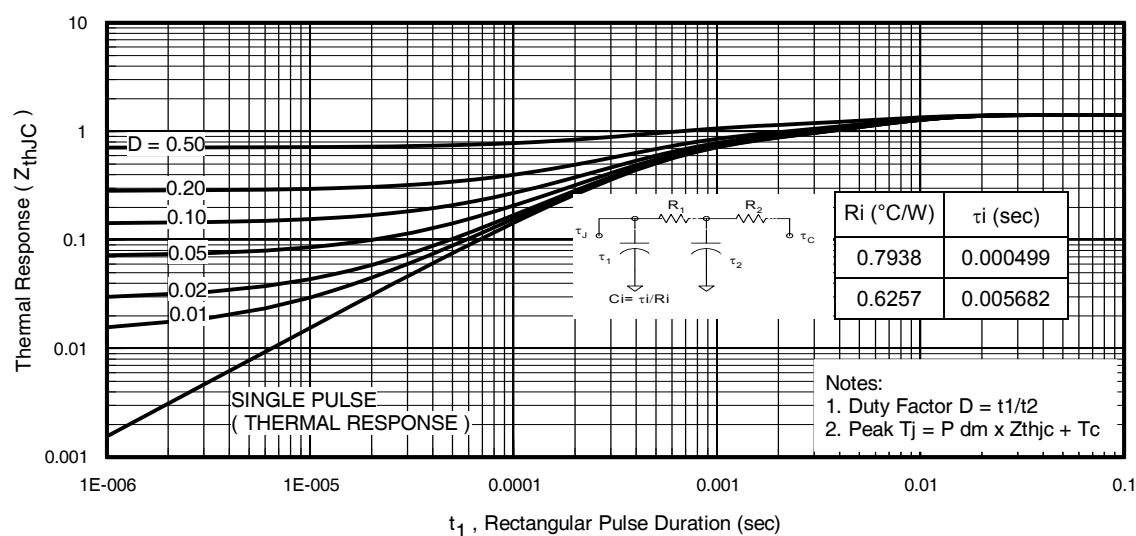
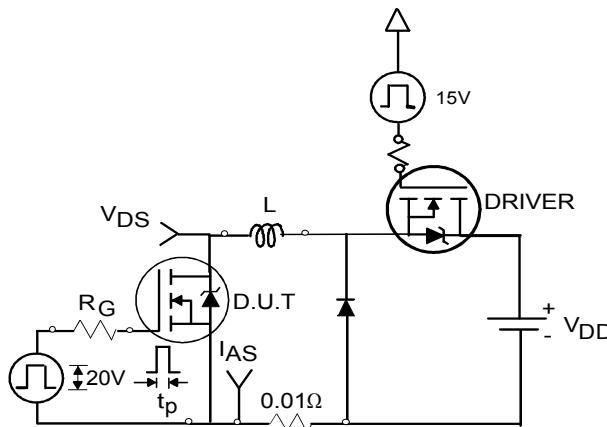

Fig 11. Maximum Effective Transient Thermal Impedance, Junction-to-Case
Fig 12a. Unclamped Inductive Test Circuit
- ① Repetitive rating; pulse width limited by max. junction temperature. (See fig. 11)
- ② Limited by $T_{J\max}$, starting $T_J = 25^\circ\text{C}$, $L = 0.197\text{mH}$, $R_G = 25\Omega$, $I_{AS} = 32\text{A}$, $V_{GS} = 10\text{V}$. Part not recommended for use above this value.
- ③ Pulse width $\leq 1.0\text{ms}$; duty cycle $\leq 2\%$.
- ④ $C_{oss\ eff.}$ is a fixed capacitance that gives the same charging time as C_{oss} while V_{DS} is rising from 0 to 80% V_{DSS}
- ⑤ Limited by $T_{J\max}$, see Fig.12a, 12b, 15, 16 for typical repetitive avalanche performance.
- ⑥ This value determined from sample failure population. starting $T_J = 25^\circ\text{C}$, $L = 0.197\text{mH}$, $R_G = 25\Omega$, $I_{AS} = 32\text{A}$, $V_{GS} = 10\text{V}$.
- ⑦ When mounted on 1" square PCB (FR-4 or G-10 Material). For recommended footprint and soldering techniques refer to application note #AN-994
- ⑧ R_θ is measured at T_J approximately 90°C
3. Equation below based on circuit and waveforms shown in Figures 12a, 12b.